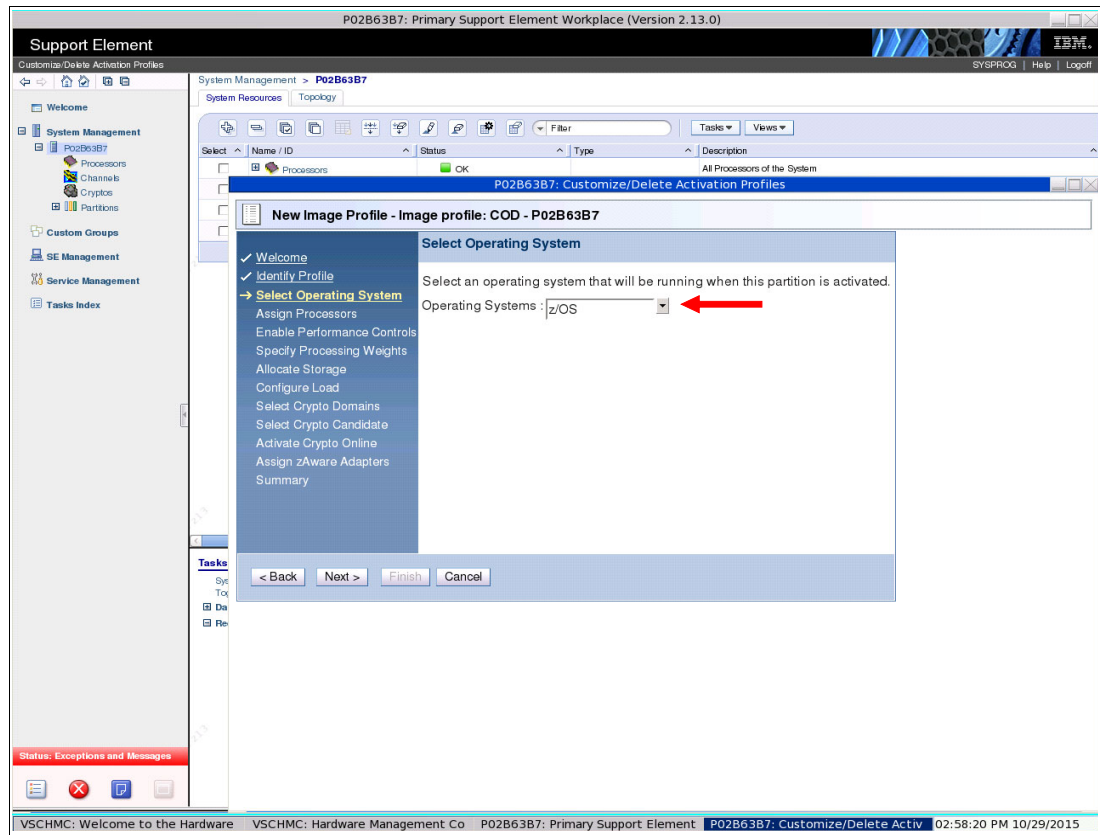

Figure 5-33 Operating system selection
5. We select an operating system to run on the COD z/OS driving system LPAR (in this case, **z/OS**), as shown in Figure 5-33. We select **Next**.